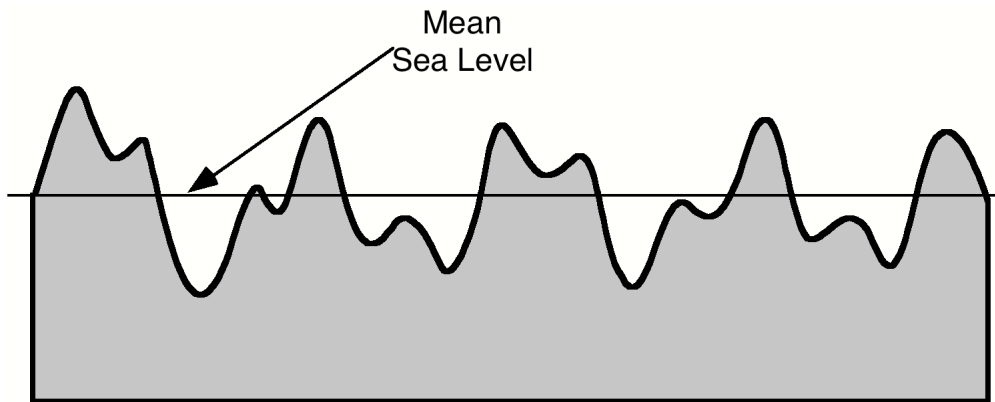

Figure 2 Typical Wave Pattern
These properties are dependent on the wind velocity (V), the duration that the wind blows (T) and the distance over the water that the wind blows called the **fetch** (F). It is possible to predict a uniform wave shape and height given these values. Unfortunately, real waves are not uniform but look more like Figure 2.